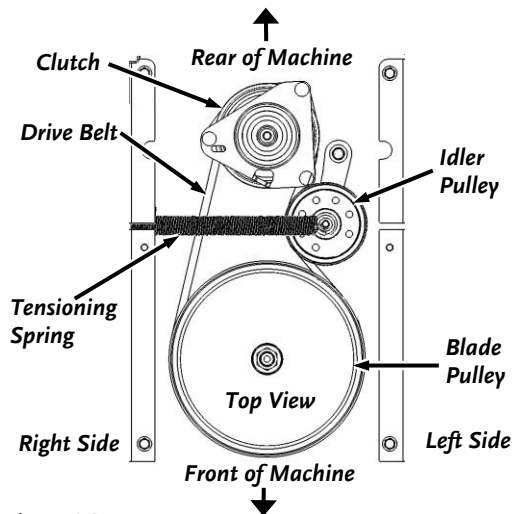

Figure 36
6. From the front of the machine where you removed the Gas Tank Plate, rotate the Blade Pulley counterclockwise as you roll the Drive Belt up and over the Blade Pulley (**Figure 36**).